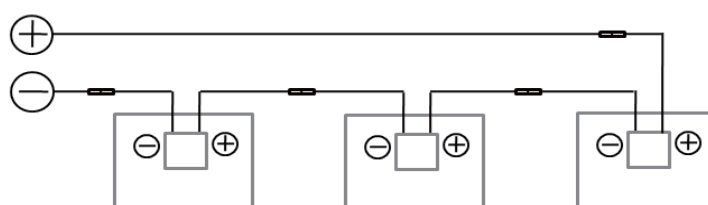
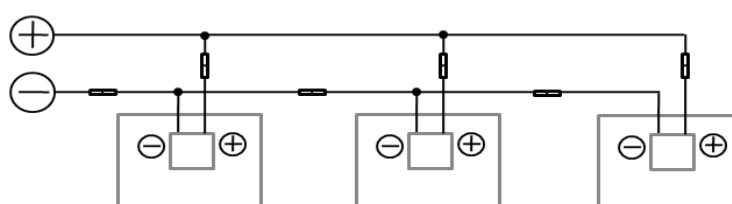
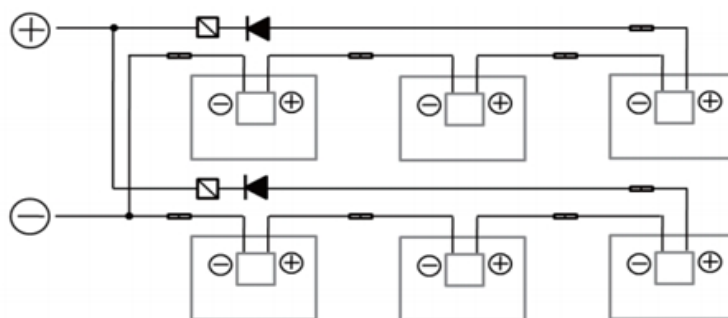

Fig. 10-1 Series Connection
Fig.10-2 Parallel Connection
Fig.10-3 Parallel-series Connection
- The Direct Current (DC) generated by the PV system can be converted to Alternating Current (AC) and connected to the public power grid. Different regions may have different policies, laws and regulations to stipulate the installation and grid-connection requirements of PV systems. Therefore, during the design, installation and grid-connection of PV system, please comply with the local policies, laws and regulations.
- In order to ensure the normal running of the system, when connecting modules or loads, please ensure that the polarity of the cable connection is correct. If the modules are incorrectly connected, the bypass diodes and junction boxes may be damaged. PV modules can be connected in series (Fig. 10-1), in parallel (Fig.10-2) and in series-parallel (Fig. 10-3). The number of serial or parallel connections shall be reasonably designed according to the system configuration. Also note that if the number of parallel connections ≥ 2 , there must be an over-current protection device on each string assembly and bypass are used for over current protection.